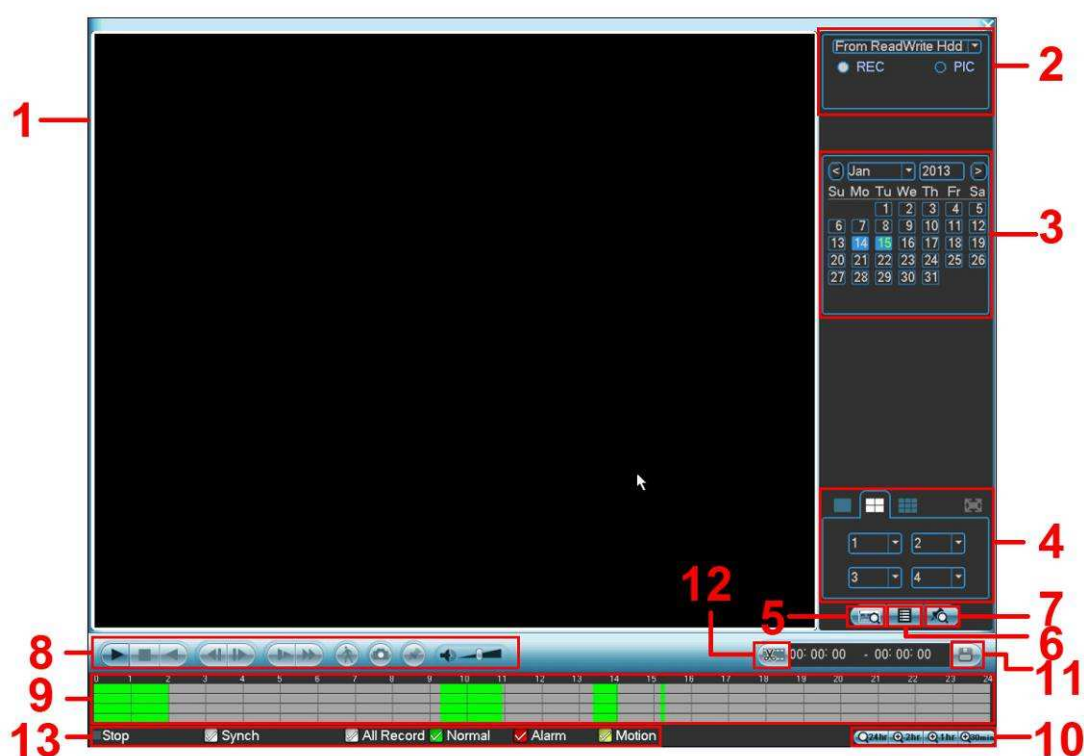
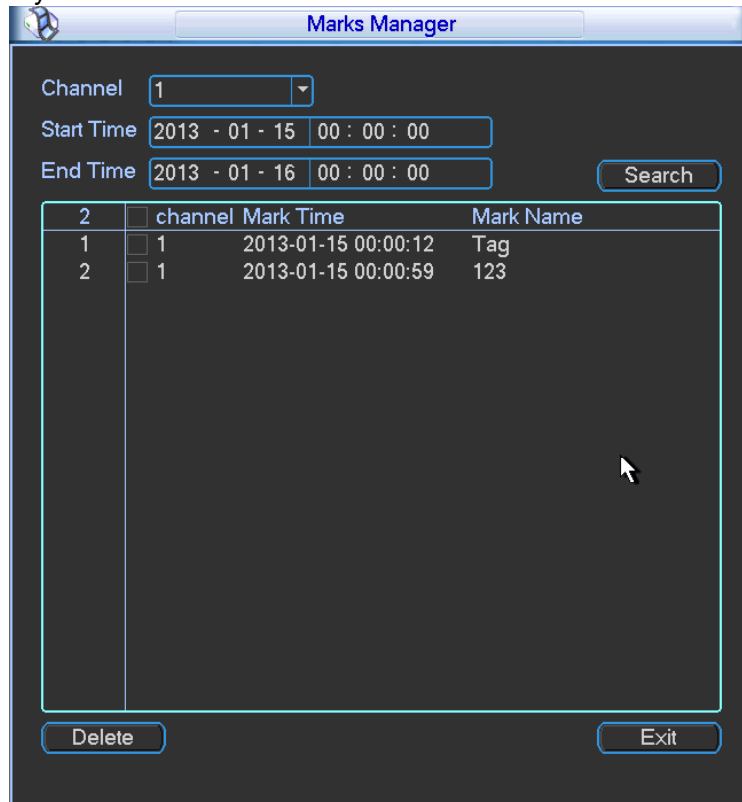

Figure 4-12
Figure 4-16
Click search button in the main menu, search interface is shown as below. See Figure 4-12.
**Please make sure your purchased device support this function. You can use this function only if you can see the mark playback icon on the Search interface (Figure 4-12).**
During 1-window playback mode, click mark file list button  in Figure 4-12, you can go to mark file list interface. Double click one mark file, you can begin playback from the mark time.
Click the mark manager button  on the Search interface (Figure 4-12); you can go to Mark Manager interface. See Figure 4-16. System can manage all the record mark information of current channel by default. You can view all mark information of current channel by time.